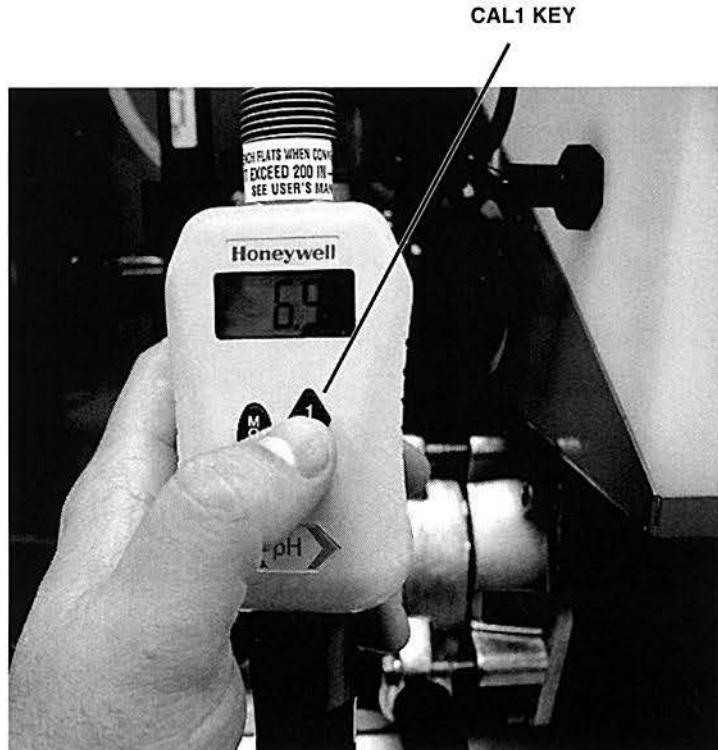

Figure 32. The CAL1 Key
- I. With your free hand, press and hold the **CAL1** key on the sensor module, shown in figure 32, until the display changes from the pH reading to CAL1.